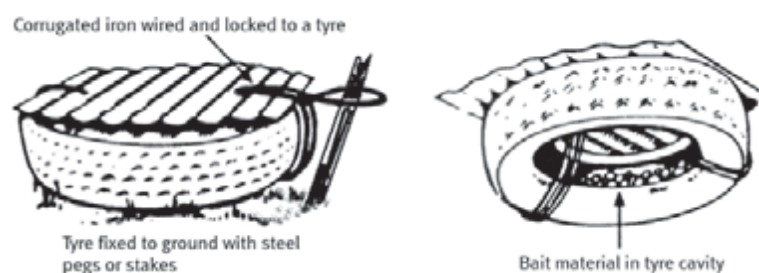

Figure 22. Car tyre bait station for rat control in macadamia orchards
- Bait with the registered rodenticide coumatetralyl (Racumin®). Handle baits with care and follow the label directions. Place the bait in a covered and locked station fixed to the ground to prevent all access to the baits by children. Covering and fixing also prevents accidental access by domestic animals and non-target wildlife. The cover also protects the bait from the sun and rain. Rats prefer the seclusion of covered bait stations. A typical bait station can be constructed using a car tyre with a sheet of corrugated iron covering the top, wired to the tyre on either side and fixed to the ground with a stake (Figure 22).